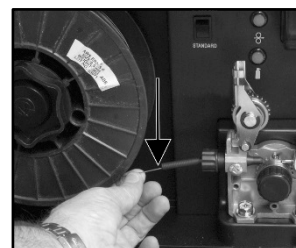

Fig. 12
5. Snip the wire carefully, be sure to hold the wire to prevent the spool uncoiling. Carefully feed the wire into the inlet guide tube of the wire feed unit (Fig. 12).